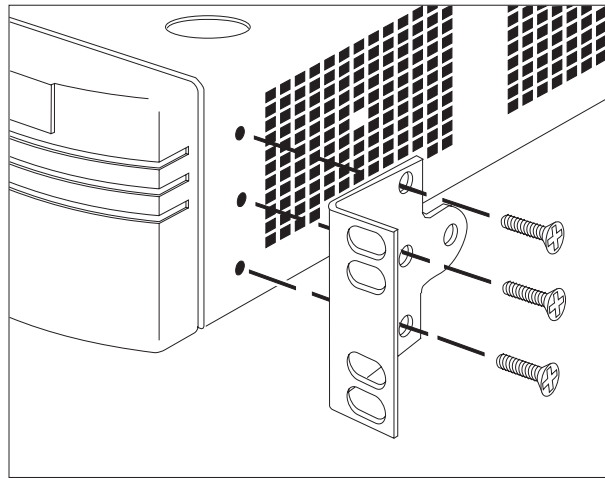

Figure 2-1 Fitting the mounting bracket
- 2 Locate a mounting bracket over the mounting holes on one side of the unit, as shown in Figure 2-1.